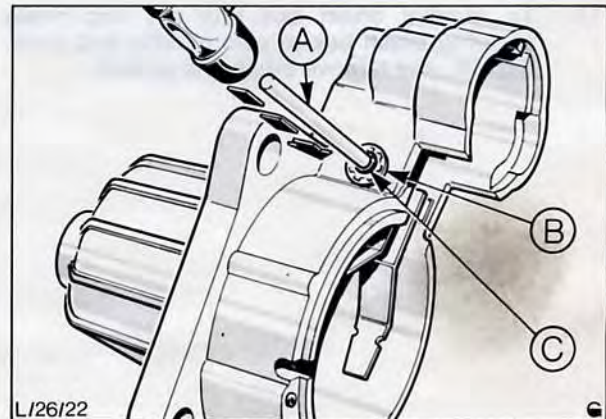

Fig. 39. Removing pivot pin
7. Drive actuating arm pivot pin from drive-end housing, Fig. 39. The pin retaining star clip will distort under pressure and allow removal of pin.